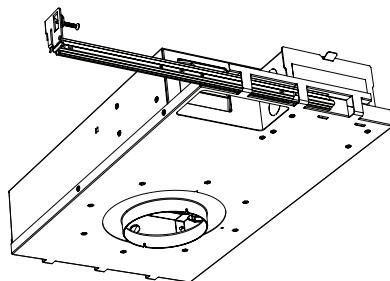

fig. 2
- b. Insert the inner nailer bar into the three housing clasps on the end of the D3 housing. Make sure the screw is on top (see fig. 2).